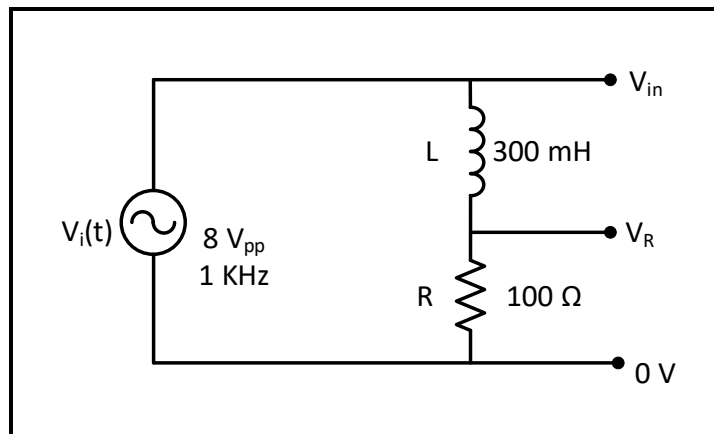

Figure 7.12
2. Repeat the same procedure in step 1 above for the circuit shown in Figure 7.12.
2. Connect the circuit in Figure 7.12, set V_{in} to sinusoidal voltage at $8 V_{pp}$ and $f = 1 \text{ KHz}$.